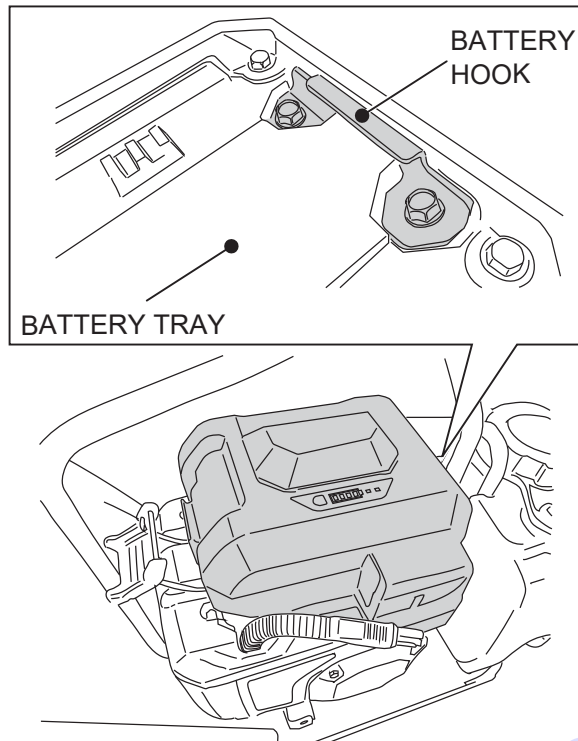

Figure 4. Battery Tray
1. Make sure there are no debris or dirt on the battery tray (Figure 4).